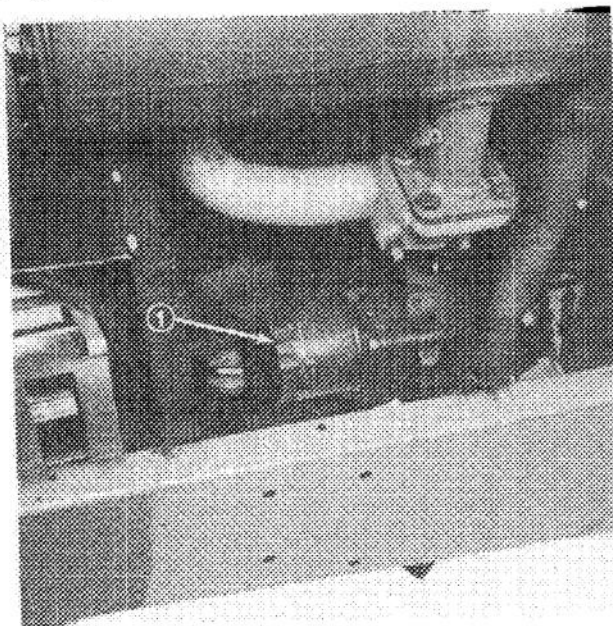

Figure 57
4. Remove oil drain plug and allow oil to flow into drain pan. Remove and replace oil filter (Fig. 57); refer to parts catalog for part number.